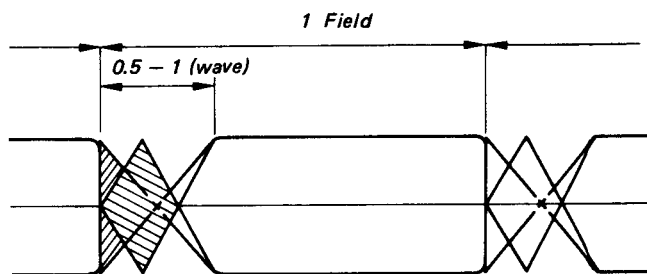

Fig. 5-123 Entrance Side Envelope Wave-form
D. Adjust the O guide to maintain that the cross portion in the envelope should be appeared (Fig. 5-123) one or a half and adjust the entrance guides as shown Section 34-1 step 5-a.